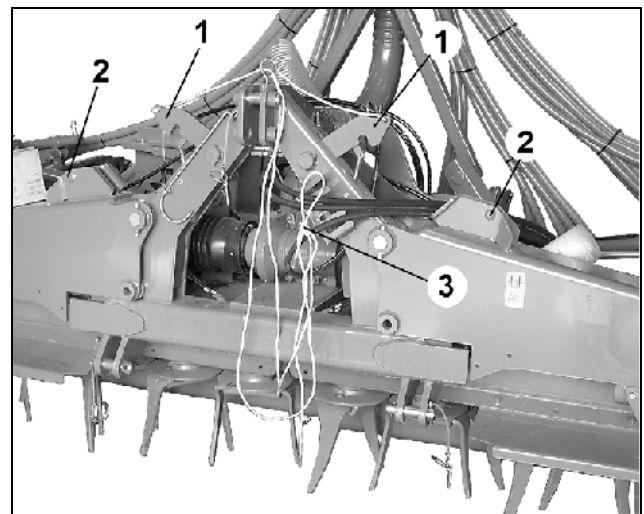

Fig. 110
- Fold out the machine. Before hand release the locking with the aid of the rope from the tractor cab. (Fig. 110/3).